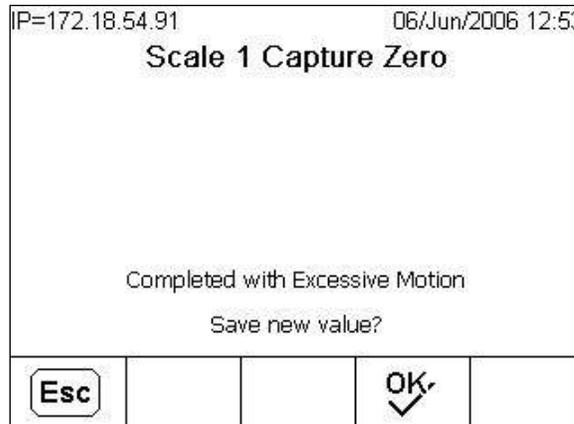

Figure 3-28: Motion While Capturing Zero
- If motion is detected during the Capture Zero procedure, a screen appears (Figure 3-28) asking the operator whether to accept or reject the captured value. Press the OK softkey  to accept the value, or ESC  to reject the value and return to the scale calibration screen.
- If motion is detected during the Capture Span procedure a screen appears, similar to the one shown in Figure 3-28. The operator can decide to use the captured value, or to abort the Capture Span operation and return to the scale calibration screen.